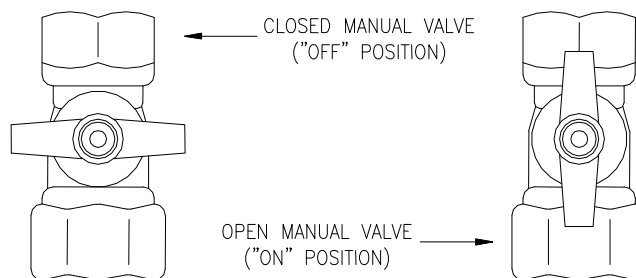

Figure 16. Manual Gas Valve.
<ol style="list-style-type: none"> 1. STOP! Read the safety information above before proceeding. 2. Set the thermostat to the lowest setting. 3. Turn off all power to the electrical appliance. 4. This water heater does not have a pilot. It is equipped with a direct ignition device, which automatically lights the burner. Do not try to light the burner by hand. 5. Turn the manual valve located at the gas inlet of the appliance clockwise to "OFF" (See Figure 16). 	<ol style="list-style-type: none"> 6. Wait (5) minutes to clear out any gas. If you then smell gas, STOP! Follow "B" in the safety information above on this label. If you don't smell gas, go to next step. 7. Turn the manual valve located at the gas inlet of appliance counterclockwise to "ON" (See Figure 16). 8. Turn on all electric power to the appliance. 9. Set the thermostat to desired setting. 10. If the appliance will not operate, Follow the instructions "To Turn Off Gas To Appliance" and call your service technician or gas supplier.
<ol style="list-style-type: none"> 1. Set the thermostat to the lowest setting. 2. Turn off all electric power to the appliance if service is to be performed. 	<ol style="list-style-type: none"> 3. Turn the manual valve at gas inlet of appliance clockwise to "OFF" (See Figure 16).
1. Turn the gas shutoff valve on the gas supply inlet to the OFF position (See Figure 16).